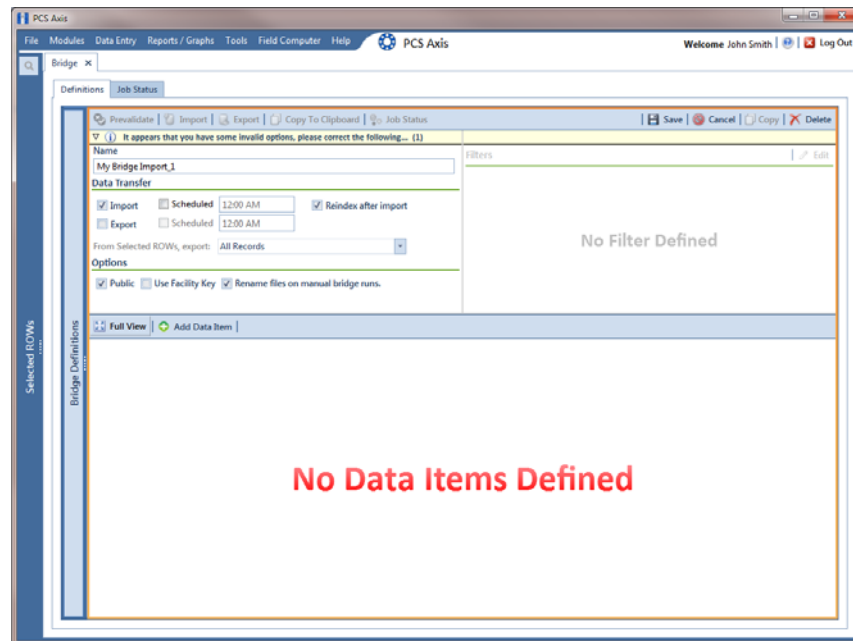

Figure 10-6. Bridge Import Definition
- 4 Type a unique name for the definition in the **Name** field (Figure 10-6, page 459).
- 5 To set properties in the *Data Transfer* group box, follow these steps (Figure 10-6, page 459):
- 6 To set properties in the *Options* group box, follow these steps (Figure 10-6):